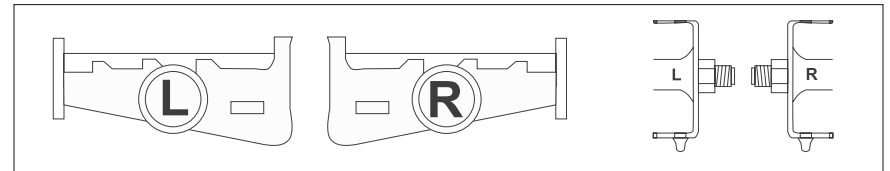

Fig. 5
Step 4: Installing Pedals (Refer to Fig. 5)